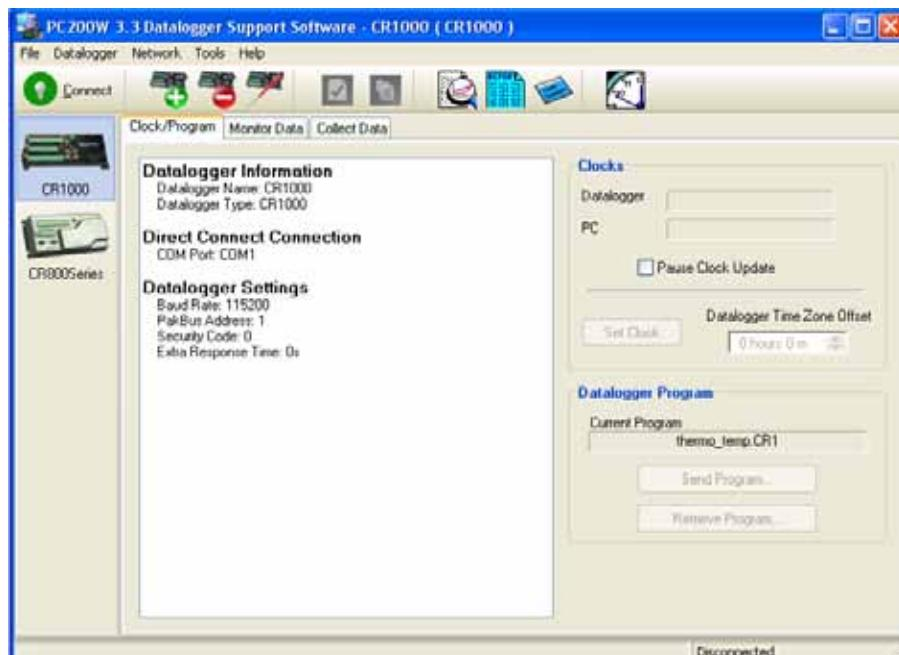

Figure 7. Main screen of PC200W software.
- Once you succeed in communicating with the datalogger** your screen will look like Figure 7 below.